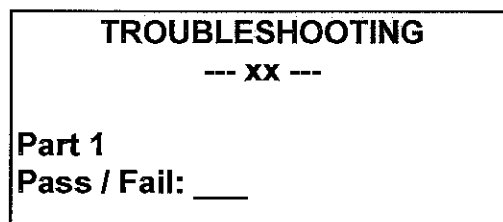

Figure 2
2. If you are satisfied that the PWM Switching Power Supply and Loads are functioning correctly, Enter “Y” at the **Proceed:** prompt. Observe the display on the Nida 130E Test Console and ensure that it looks like the example shown in Figure 2.